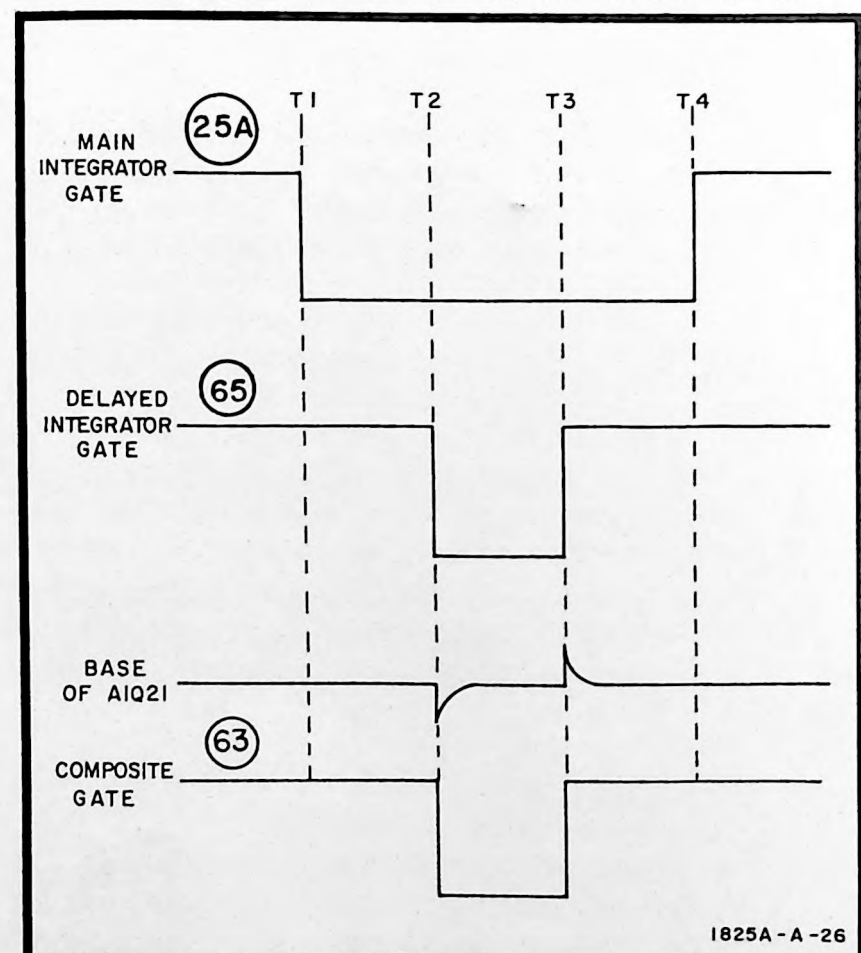

Figure 4-2. Sequence of Events, Delayed Mode Gate
4-177. In delayed mode, A1Q19 is disabled by removal of -12.6 volts from line (64). A1Q23 is enabled by application of -12.6 volts on line (65). The sequence of events for delayed mode is shown in figure 4-2. At t_1 , the main integrator gate is applied to the base of A1Q20 via line (25A), enabling the Schmitt trigger. Following time t_1 , the main ramp is compared with a selected voltage in